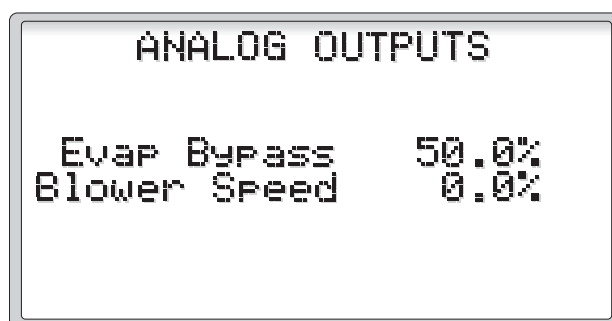

Figure 11
2.2.1.2.4 Analog Outputs (Figure 11)